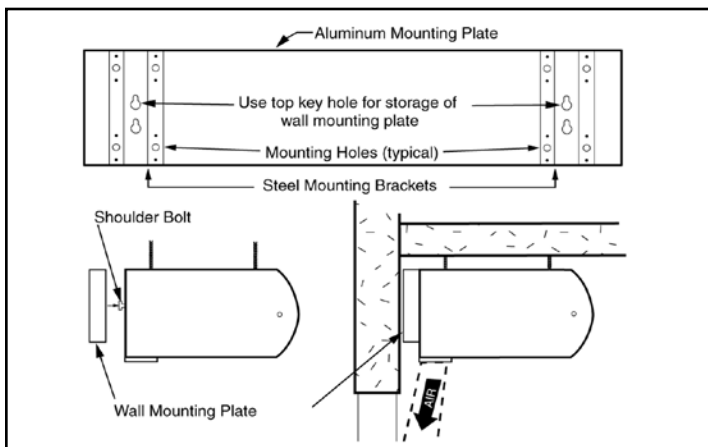

FIGURE 5 - Wall Mounting Plate Storage
- A. When the air curtain is top mounted, the wall mounting plate is designed to store on the back of the air curtain for future use. See Figure 5.